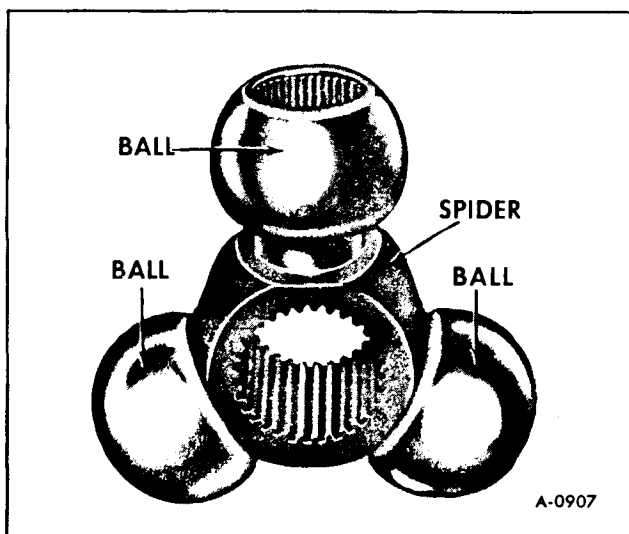
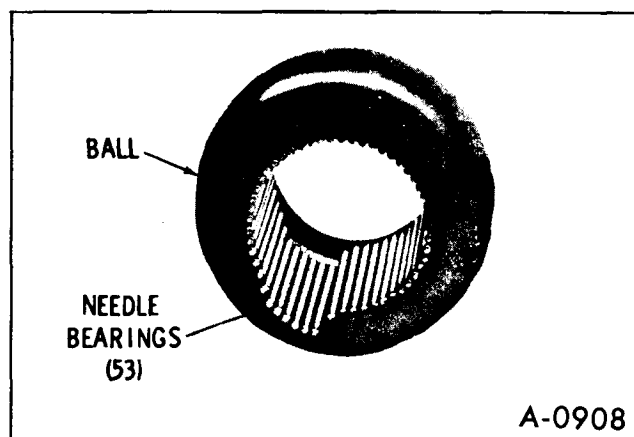

Figure 26—Spider Assembly
Figure 27—Spider Ball Needle Bearings
11. Remove balls (three) from spider, (figure 26) being careful not to lose any of the 53 needle bearings in each of the balls. (figure 27)
5. Carefully install balls on each of the spider journals. (figure 26)